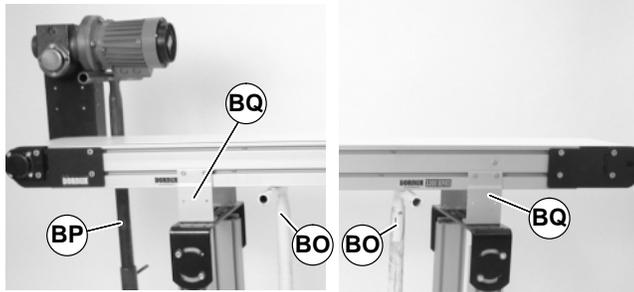

Figure 37
1. Place temporary support stands (BO of Figure 37) at both ends of the conveyor. See WARNING.
4. Remove first mounting brackets (BQ of Figure 37) from one side of conveyor. (Reverse steps 3 & 4 of "Mounting Brackets" section on page 7).
1. Ensure temporary support stands (BO of Figure 37) are placed at both ends of the conveyor. See WARNING.